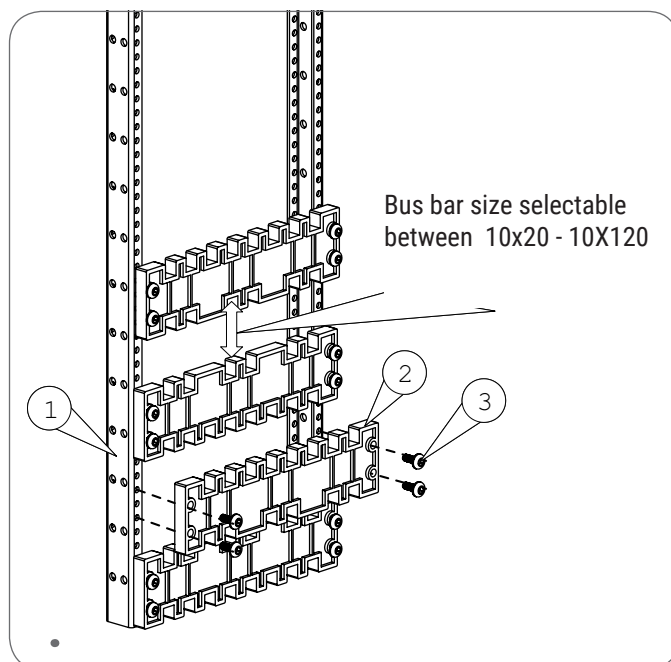

Fig. 2.21. Assembling a support insulator package.
table before fastening them into the structure. The support insulator holders (1) allow you to choose the correct bar size between 10x20 – 10x120mm. Support insulators (2) are fastened to the holders using 5.5x13mm plate screws (3). Fig. 2.21 shows how support insulator assemblies are installed.